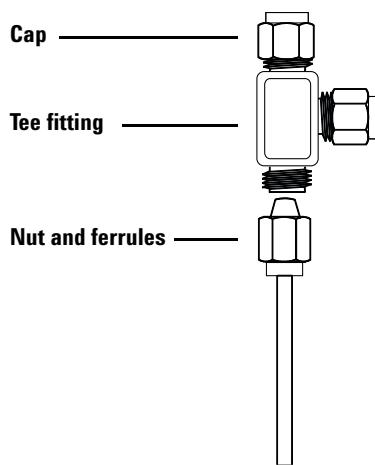

Figure 13 Swagelok tee
- 1 Cut the tubing where you want to install the Tee. Connect the tubing and Tee with a Swagelok fitting. See Figure 13.